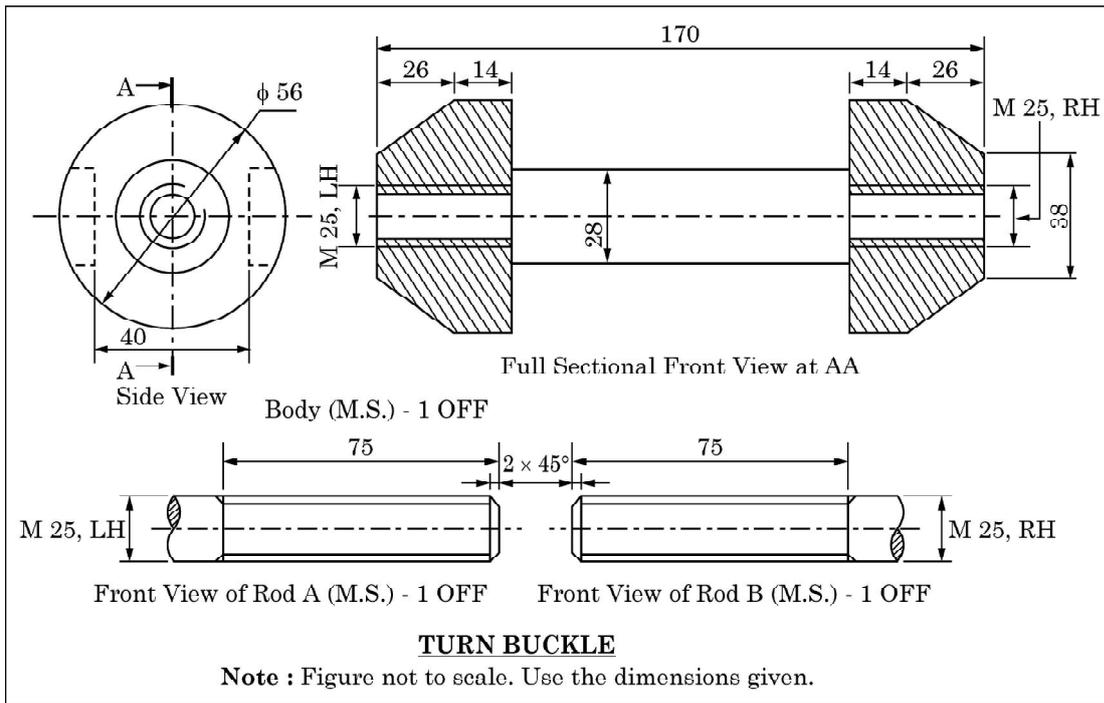

FIG. 1
2. FIG. 1 shows the details of the parts of a **TURN BUCKLE**. Assemble all these parts correctly and then draw to scale 1 : 1 its following views. Keep 60 mm threaded portions of each rod inside the body of Turn Buckle.